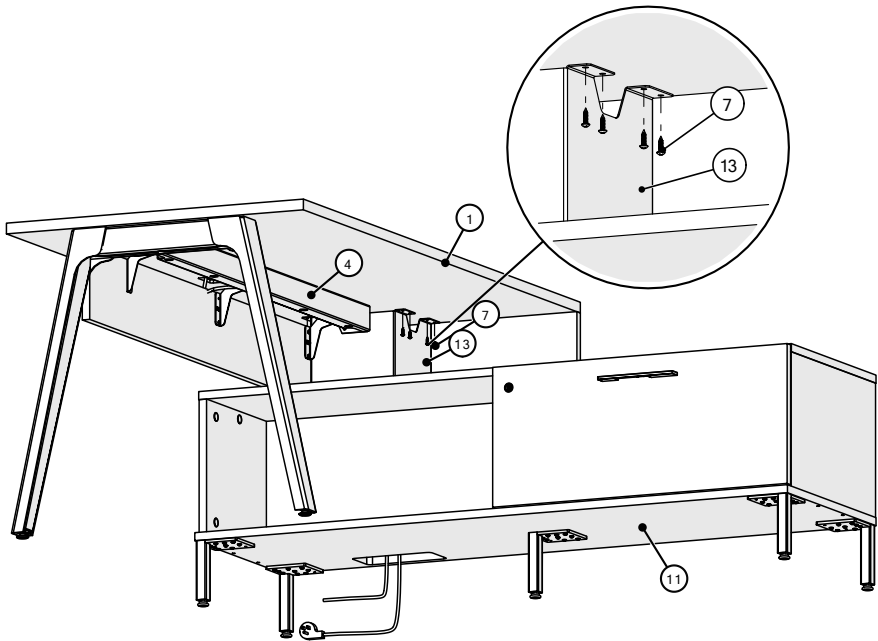

Figure 12
14. Flip and install the desk by attaching the worksurface to desk support box using the #8 x 5/8, Pan Quadrex drive Screw, (Figure 12).